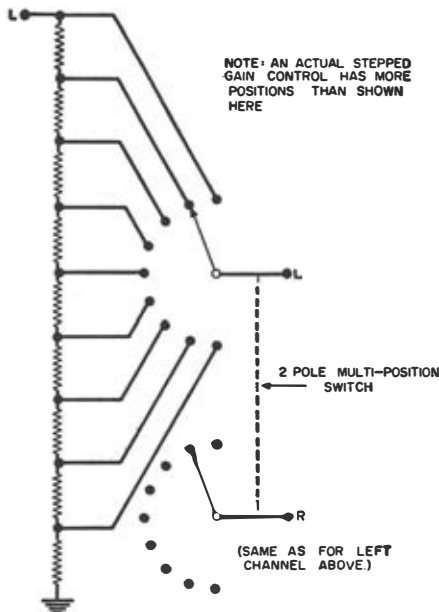

Fig. 9. Stepped master gain control.
4. Employ stepped controls, as in Fig. 9. Resistor values are usually chosen so that going from one switch position to the next produces a level change of about 2 or 3 db. Tracking error can be kept well under 1 db by this method, however, it is quite expensive and has a limited range of attenuation due to the finite number of switch positions.